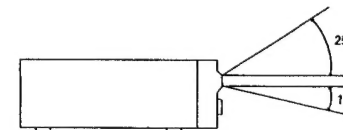

Figure 7
- The display window (fluorescent tube) is designed so that all indications can be seen from within the angles shown on Figure 7. Install the units so that the visual angle is within this range.